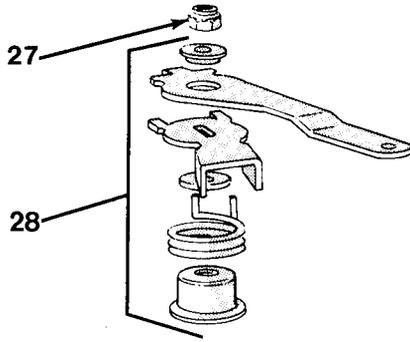

Figure 7-19
8. Remove lock nut (27) and throttle lever kit (28, Figure 7-19).